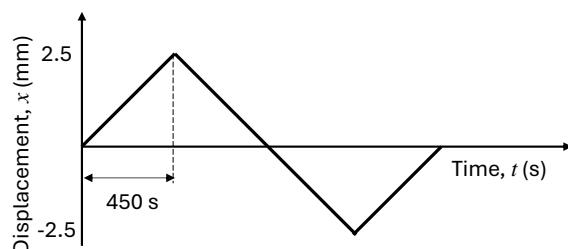

Figure 2: Triangle wave to follow using feedback control
- After calibration, implement feedback control to follow a  $\pm 2.5$  mm amplitude triangle wave at 6.7  $\mu\text{m/s}$  for one period, see Figure 2 . To generate this signal, a LabVIEW file, Triangle wave signal.vi is provided in the LabVIEW project.